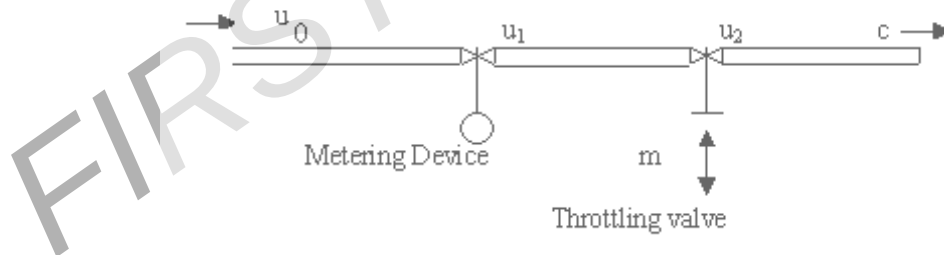

Figure 5a
3. (a) Write the process equation for the flow rate process shown below figure 5a. u_o, u_1 and u_2 are the upstream head, head after metering device and downstream head respectively.